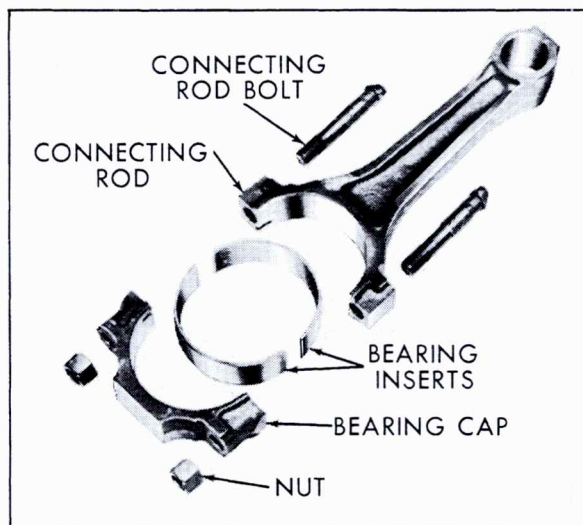

Fig. 6-130 Connecting Rod and Bearings
6. Remove connecting rod cap by removing connecting rod nuts and sliding cap down off connecting rod bolts. Fig. 6-130.